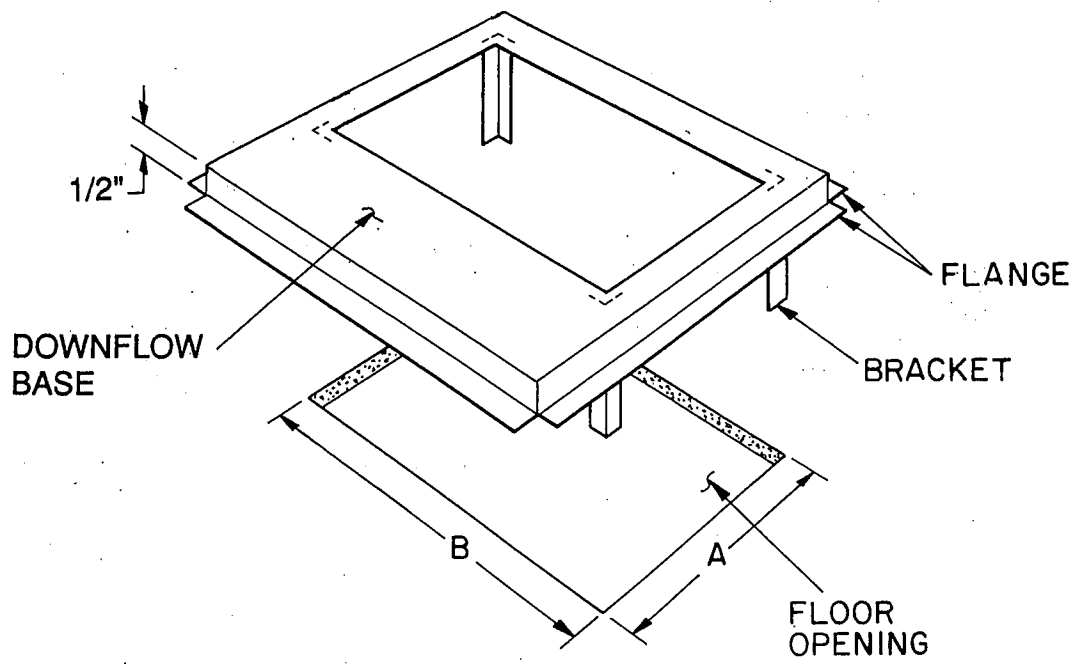

Fig. 1—Downflow Base
1. Cut a hole in floor large enough for clearance of downflow base brackets. See Fig. 1 and Table 1 to determine clearance dimensions.